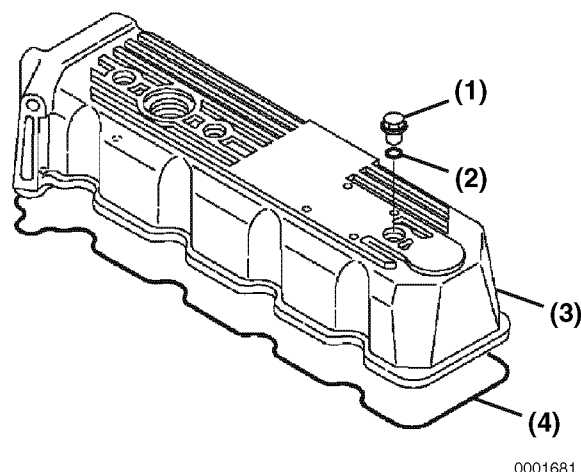

Figure 6-32
1. Lightly grease a new valve cover gasket **(Figure 6-32, (4))**. Place the gasket in the groove of the valve cover **(Figure 6-32, (3))**.
3. Be sure O-rings **(Figure 6-32, (2))** are installed on the valve cover nuts. Install and tighten the valve cover nuts **(Figure 6-32, (1))**.